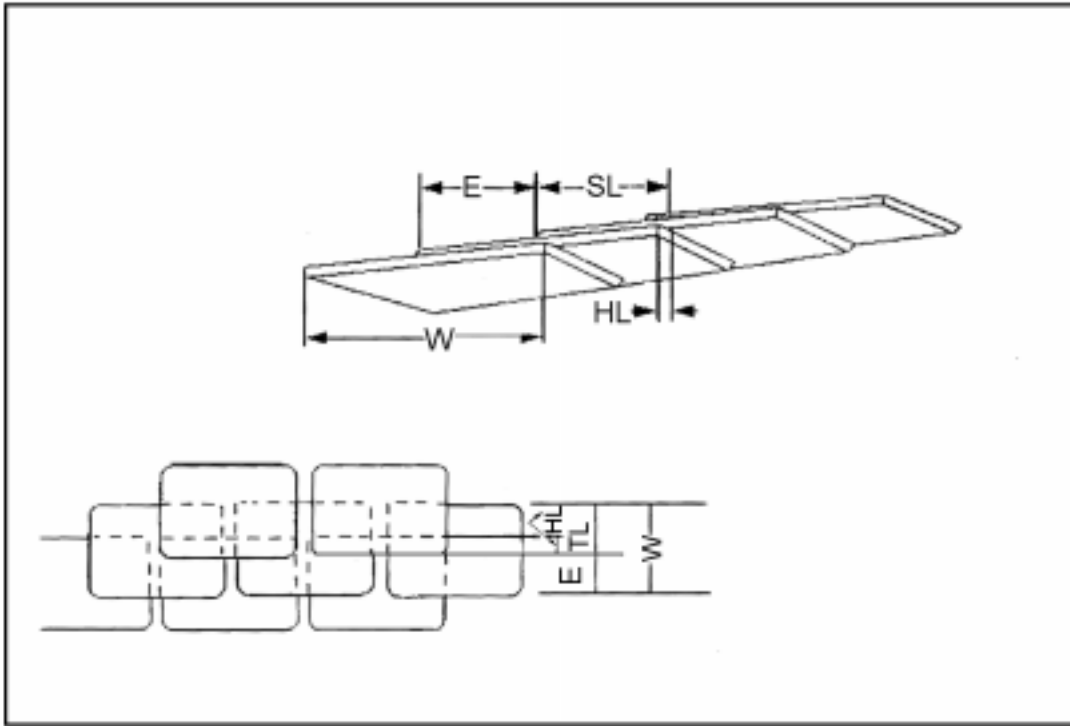

Figure 051-236-1172-1
- (1) Square. The amount required to cover 100 square feet of the roof's surface.
- (2) Coverage. The amount of weather protection provided by the overlapping of shingles.
- (3) Shingle surfaces.
- (a) Shingle width (W). This refers to the total measurement across the top of either a strip type or individual type of shingle.
- (b) Top lap (TL). The area that one shingle overlaps another in the course (row) below.
- (c) Side lap (SL). The area that one shingle overlaps a shingle next to it in the same course.
- (d) Head lap (HL). The area that one shingle overlaps a shingle two courses below. Head lap is measured from the bottom edge of an overlapping shingle to the nearest top edge of an overlapped shingle.
- (e) Exposure (E). The area that is exposed (not overlapped) in a shingle. Refer to Figure 051-236-1172-1.